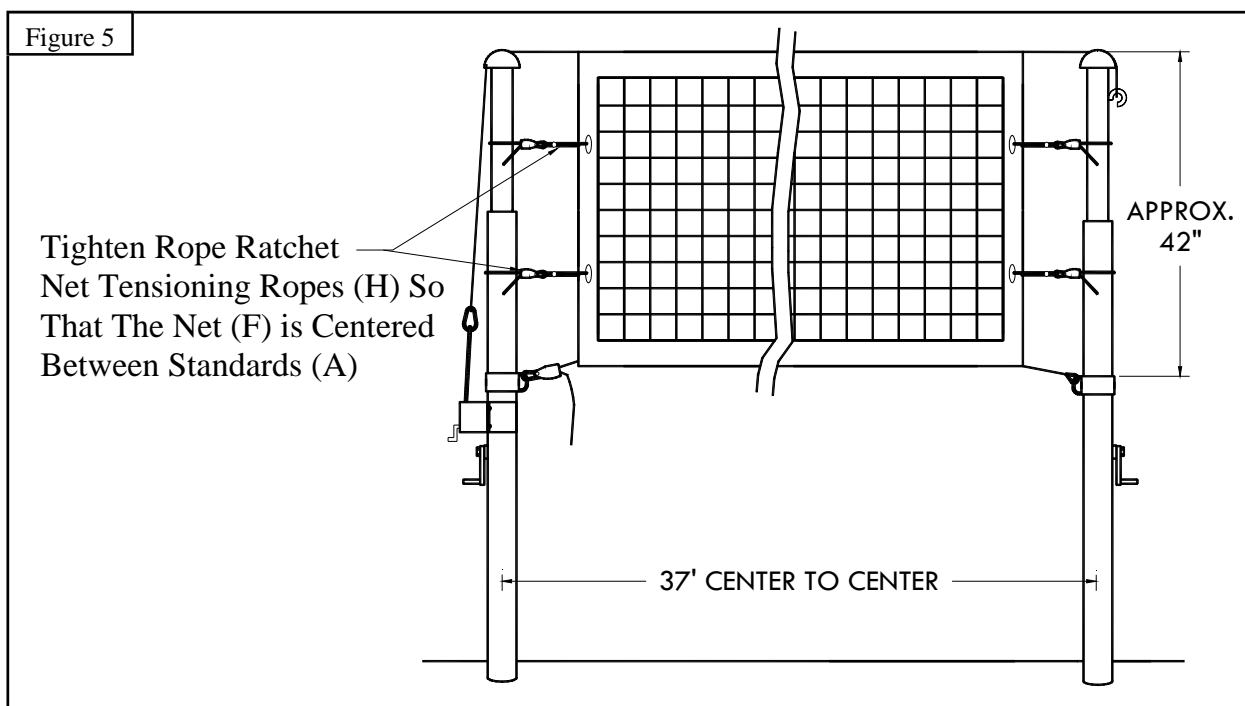

Figure 5
6. Run *Rope Ratchet Net Tensioning Ropes* (H) through button holes on both sides of net and around the *Standards* (A). Tighten all rope ratchets so that net is in the center of the poles and is pulled tight to the left and right. Adjust winch and rope ratchet tension until the net is at desired tension for play. See Figure 5.
7. Measure from the top center of *Net* (F) to the floor. Official Men's height is 7' 11 5/8", Women's, 7' 4 1/8" and Junior's 7'. If this measurement is above or below the official height write it down and proceed to instruction #8 to make minor one time adjustments to the adjustable foot.
2. Adjust *Collar Straps* (J) so that they are 1"-2" below the bottom of the net.
4. Attach *Rope Ratchet Net Tensioning Ropes* (H) around pole and hook ends together, then even net out between poles as in previous instructions and apply desired tension. See Figure 5